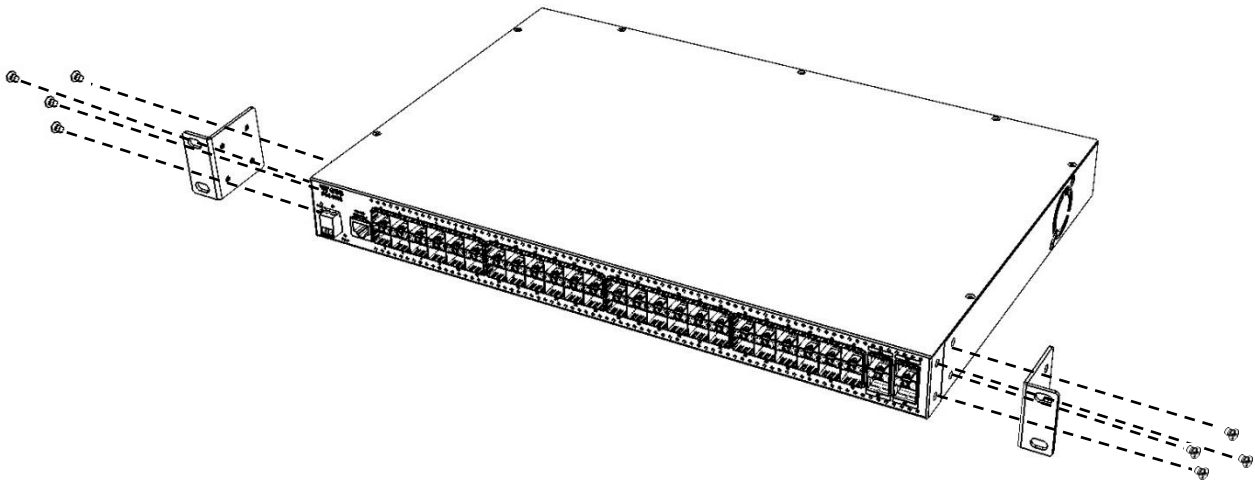

Figure 2-2. Remove brackets for FOS-5152 Switch Wall-mounting
**1.1.** Unscrew the screws from each bracket at both sides of the switch. (See Figure 2-2)